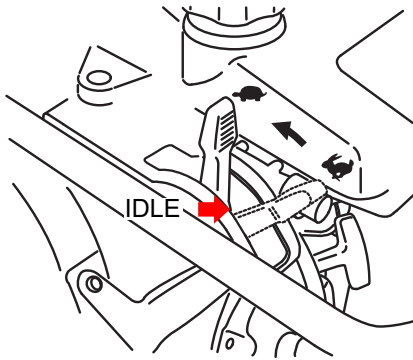
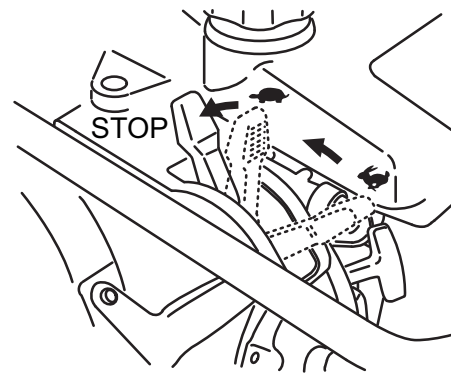

Figure 9. Throttle Lever (Idle Position)
Figure 15. Throttle Lever (Stop Position)
1. Slide the throttle lever from the stop to the idle position (☛) (Figure 9). This opens the fuel cock and the engine electrical circuit is turned on automatically.
3. To stop the tamping action, move throttle lever quickly from the **START** (↻) position to the **IDLE** (→) position (Figure 9).
1. Move throttle lever quickly from the **START** (↻) position to the **IDLE** (→) position (Figure 9) and run the engine for three minutes at low speed. After the engine **cools**, move the throttle lever to the **STOP** position (Figure 15). The engine will stop and the fuel cock is automatically closed.